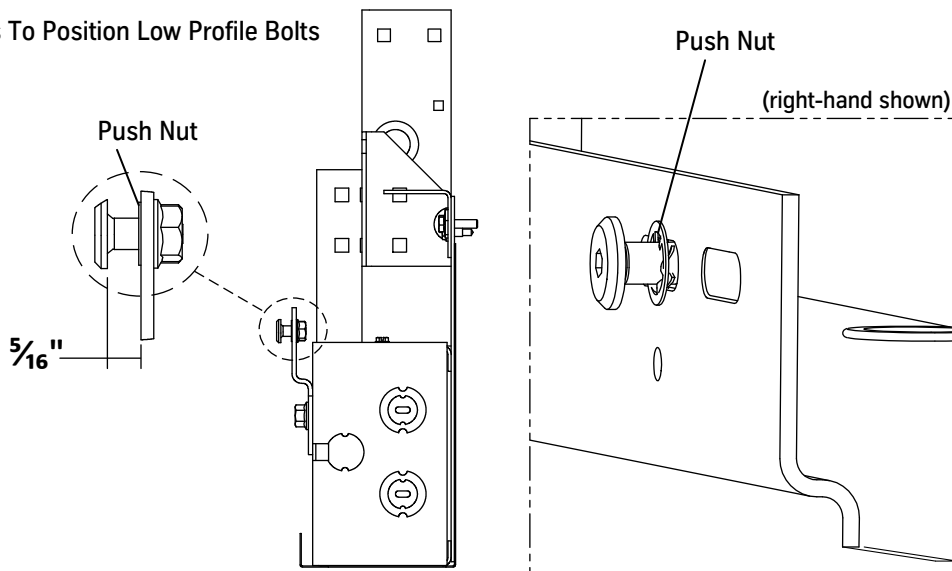

Figure 5 - Adapter Angle Installation (2 of 2)
7. Use the existing door track holes to align the adapter angle. See Figure 4 below and Figure 5 on page 15.